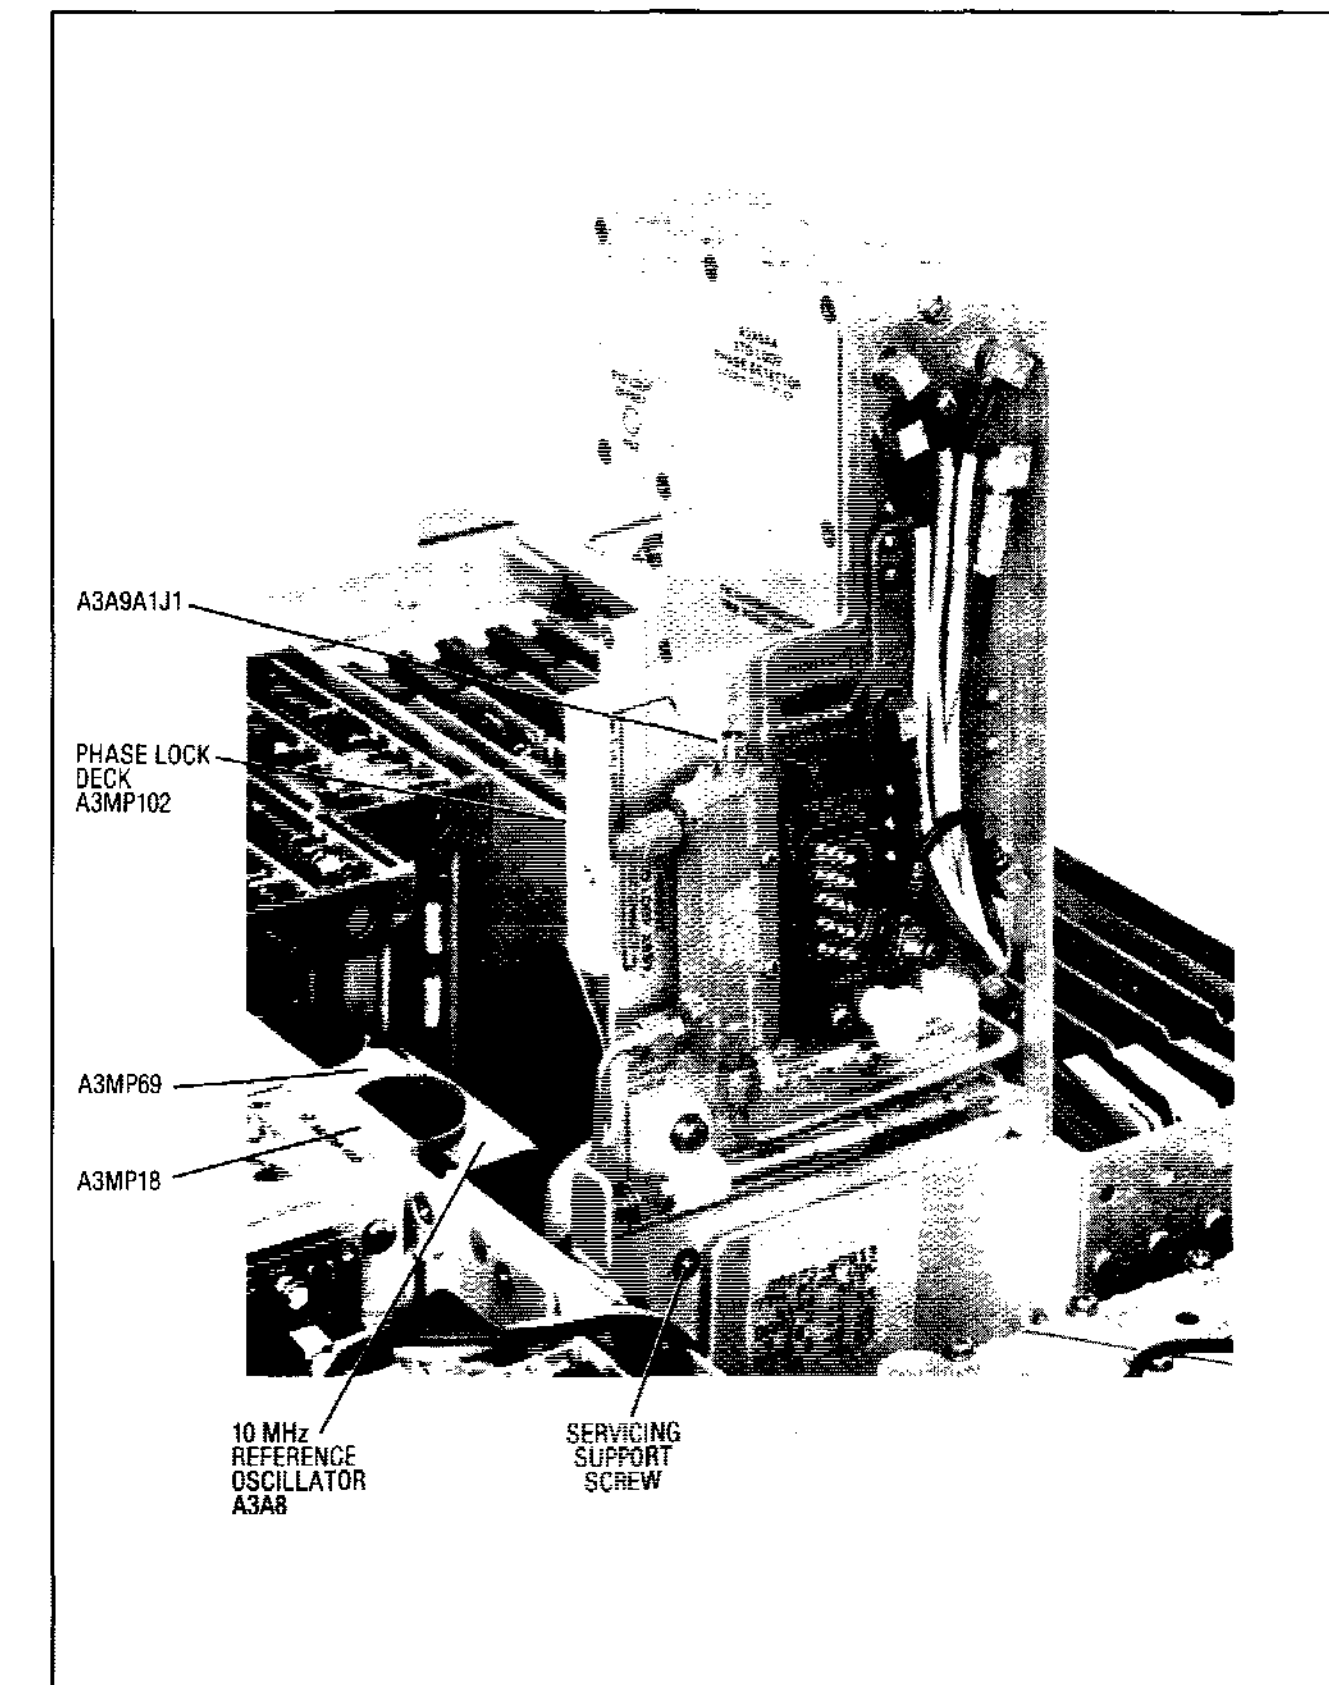

Figure 8-174. YTO Loop in Service Position
4. Refer to Figure 8-174 for the following steps.
3. Refer to Figure 8-174 for the following steps.